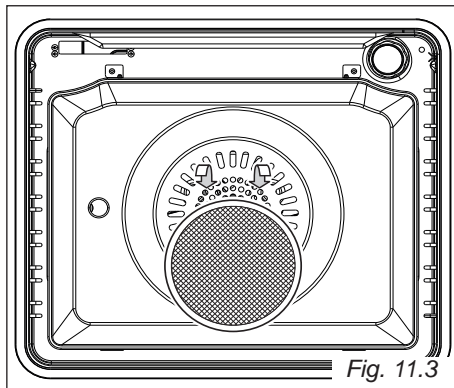

Fig. 11.3
- A special screen is provided at the back of the oven to catch grease particles, mainly when meat is being roasted. Slide in the grease filters on the back of the oven as in fig. 11.3.